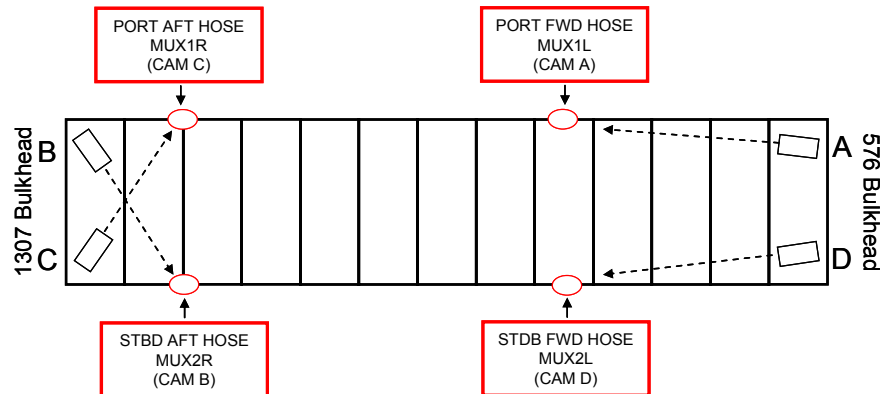

Figure 1-5. RAD hose camera hose muxing
5. ✓ MCC for rad hose camr pointing and composed MUX1(A,C) and MUX2(D,B) camr views (see fig 1-5, fig 1-6 1-35, fig 1-7 1-36)